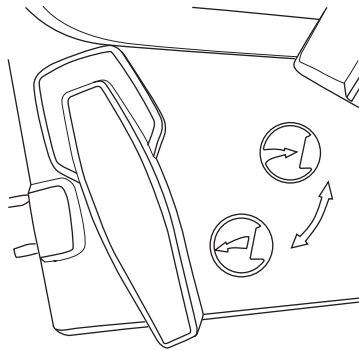

Fig. 12
3. Move the lever (5) to the  position to use the product as a blower. (Fig. 12)